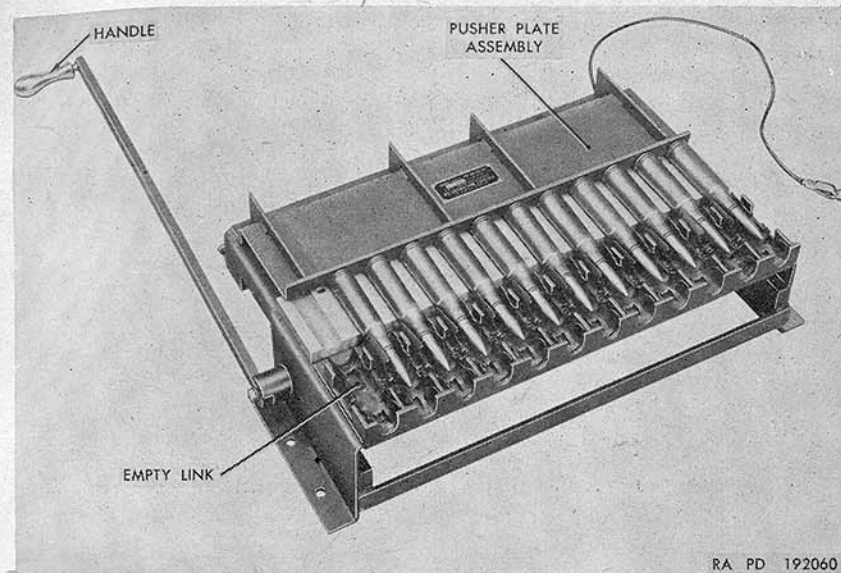

Figure 20. Rounds in position to be forced into links.
- (6) Lay 10 additional 20-mm or cal. .60 rounds in the grooves of the cartridge guide, leaving the link on the right side empty (fig. 20).